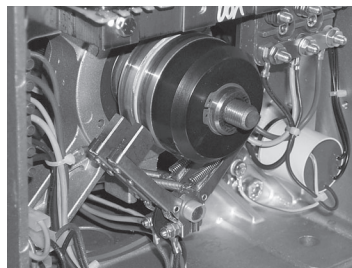

fig. 4
- 2.1 (fig.4) in series GT and GS generators there must be at least 10mm of carbon outside the brush-holders,